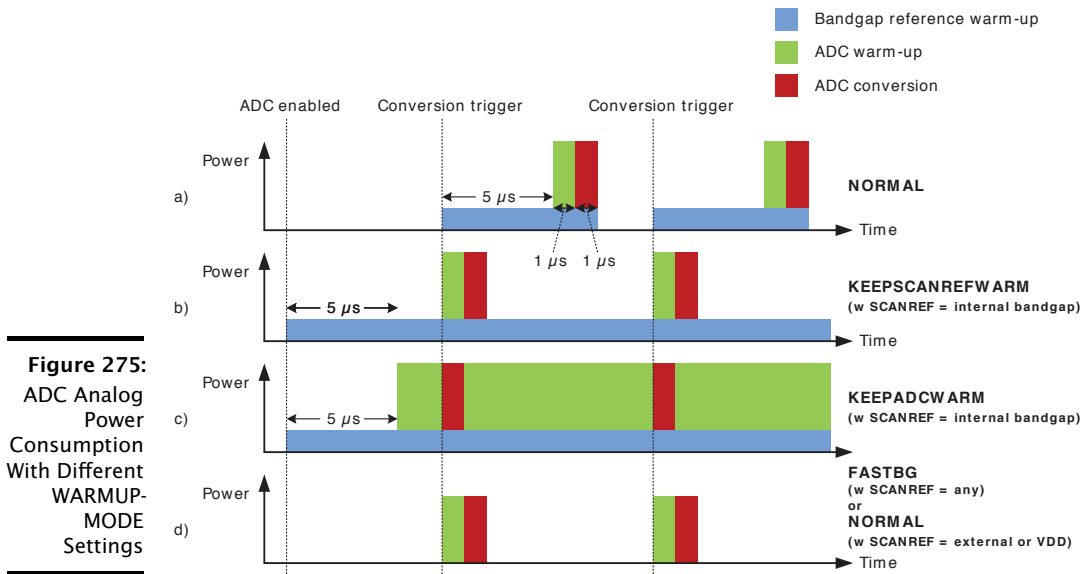

Figure 275:
Normally, the ADC will be warmed up only when samples are requested and is shut off when there are no more samples waiting. However, if lower latency is needed, configuring the WARMUPMODE field in ADCn_CTRL allows the ADC and/or reference to stay warm between samples, eliminating the need for warm-up. Figure 275 shows the analog power consumption in scenarios using the different WARMUPMODE settings.
- ▶ **NORMAL:** ADC and references are shut off when there are no samples waiting. a) in Figure 275 shows this mode used with an internal bandgap reference. Figure d) shows this mode when using VDD or an external reference.
- ▶ **FASTBG:** Bandgap warm-up is eliminated, but with reduced reference accuracy. d) in Figure 275 shows this mode used with an internal bandgap reference.
- ▶ **KEEPSCANREFWARM:** The reference selected for scan mode is kept warm. The ADC will still need to be warmed up before conversion. b) in Figure 275 shows this mode used with an internal bandgap reference.
- ▶ **KEEPADCWARM:** The ADC and the reference selected for scan mode is kept warm. c) in Figure 275 shows this mode used with an internal bandgap reference.